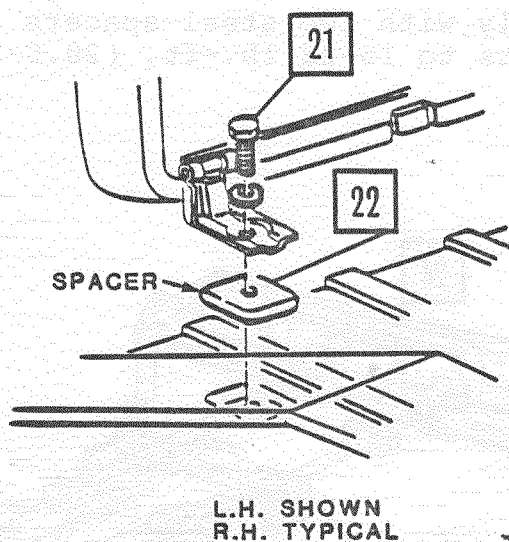

Figure 6.
26. Install rear seat assembly in vehicle and insert spacers next to floor (Figure 6.) using new longer bolt with washer. Tighten to 30-45 lb.-ft. (40.0-60.0 Nm).